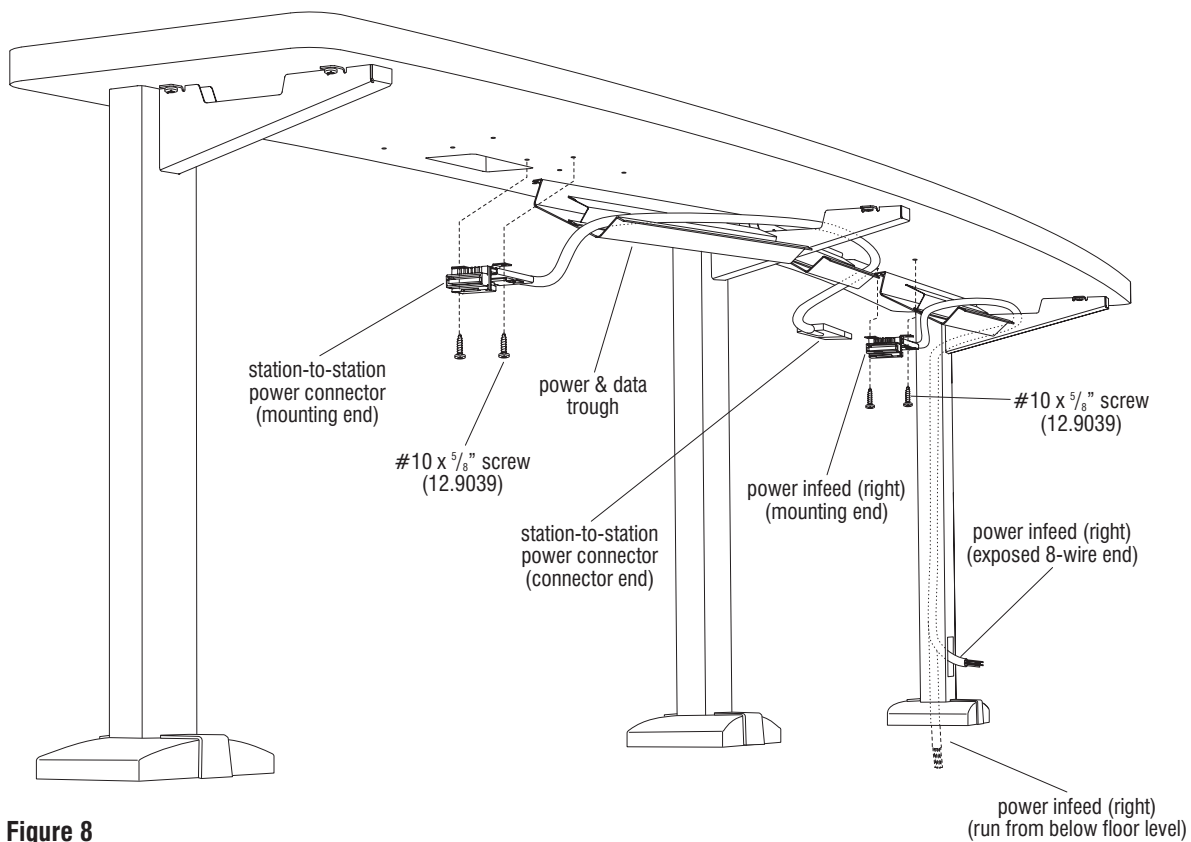
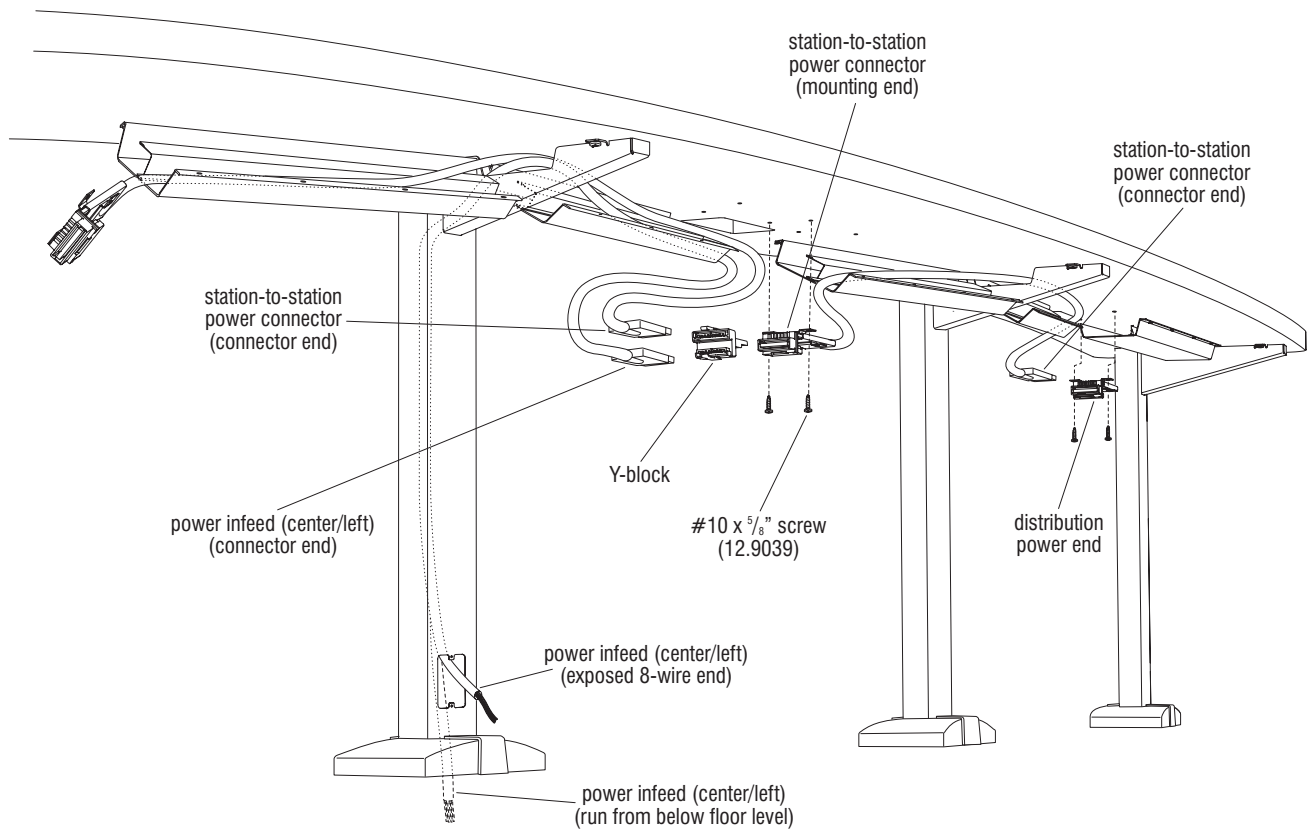

Figure 8
Figure 9
**Note:** Power infeeds for the Seminar Tables with the PowerUp system may include one or both of the following: Right-hand (FP-PI) provides mounting for a receptacle and is to be fastened to the underside of the table top (Figure 8). Center/left-hand power infeed (FP-PI-LC) plugs into a
Y-block, which is connected to a station-to-station power connector that mounts to the underside of the table top (Figure 9). Carefully follow steps 16 through 18 for correct installation of components.
column. Pull the exposed 8-wire end out of the lower wire access hole, or through the bottom of the column, for connections below floor level (Figure 9 or 10). Check the length of the conduit by verifying that both ends of the conduit will reach their desired connection points. Installations requiring electrical connections below floor level may be made at this time.
wire access hole will be connected to the power source at a later time. For **right power infeed**, attach the mounting end to the underside of the table top with two #10 x 5/8" screws at the pre-drilled holes (Figure 8). Torque screws to 25 in/lbs. For **center/left power infeed**, leave the connector end resting in the power & data trough until later when it will be connected to a station-to-station power connector via a Y-block (Figure 9).
with #10 x 5/8" screws torqued to 25 in/lbs (Figures 8 & 9). For **center power infeed**, plug the connector end of the infeed into a Y-block and attach the Y-block to the mounting end of the station-to-station power connector. The power feeds in toward the right, but continues on to the left with the Y-block in place (Figure 9). For **left power infeed** situations, the Y-block is not required because the power does not continue to the left. At the right side, end-of-run of
electrical, the last station-to-station power connector (connector end) will plug into a distribution power end. Mount the distribution power end to the table top at the pre-drilled holes using #10 x 5/8" screws torqued to 25 in/lbs (Figure 9).